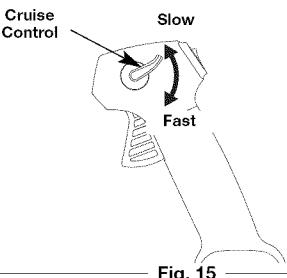

Fig. 15
1. Once the engine has started and warmed up, squeeze the trigger to accelerate the unit as needed (Fig. 15).
2. For longer periods of operation and to eliminate possible finger fatigue, move the cruise control toward the **FAST** position to incrementally increase or maintain the unit's engine speed (Fig. 15). When the cruise control is pressed, the trigger will recede into the handle.
3. To decrease engine speed, move the cruise control to the **SLOW** position and the trigger will return to the idle position (Fig. 15).
- Use the cruise control (Fig. 15) to keep the trigger depressed while operating to make continuous operation easier.